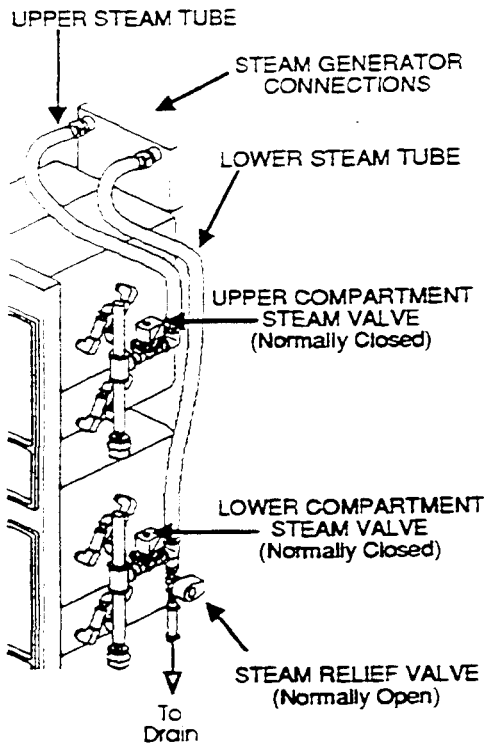

Figure 5-7. Steam Flow Control Components - 24-CGA-10 - Repeated
1. The upper compartment condenser and steam valves function exactly as the valves in the lower compartment (described in B.I. above). Steam from the generator passes through the upper steam valve into the upper cooking compartment (Figures 5-7).